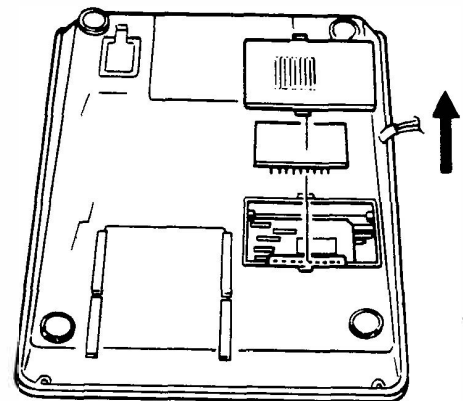

Figure 200-55 Mounting the HFU-Z Unit
1. Remove the access cover, located on the bottom of the Key Telephone, by lifting the edge on the side where the handset jack is located and then sliding it to the right, as shown in Figure 200-55 Mounting the HFU-Z Unit.